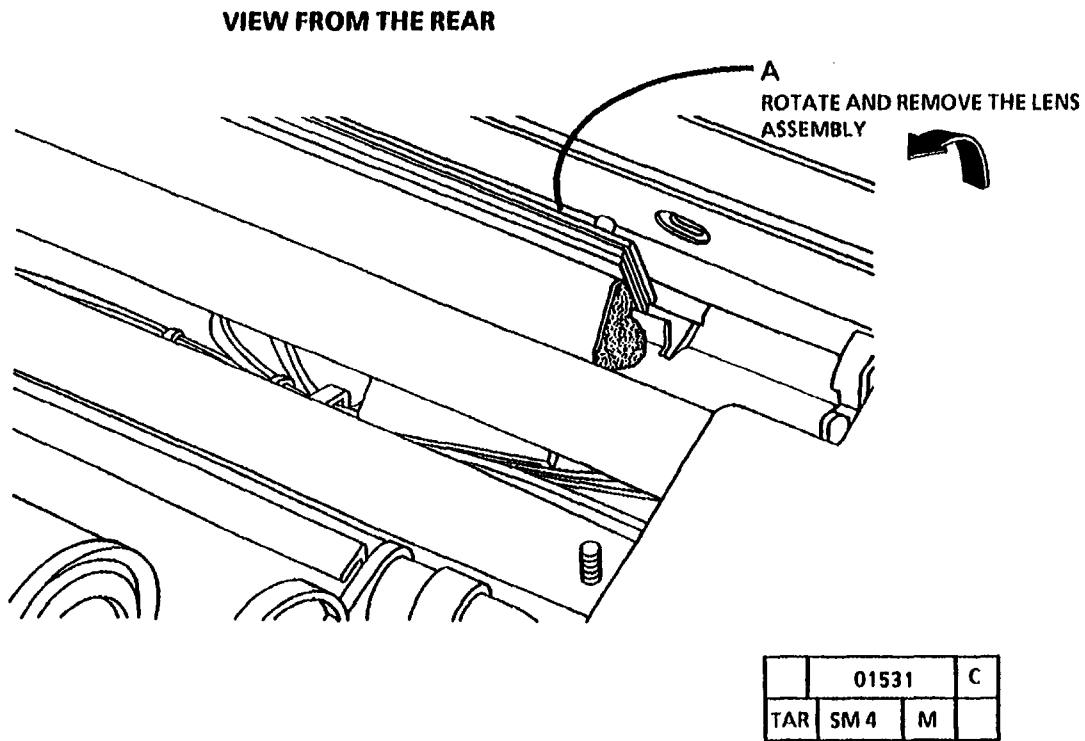

Figure 2. Remove the Lens Assembly
5. (Figure 2): Remove the Lens Assembly.